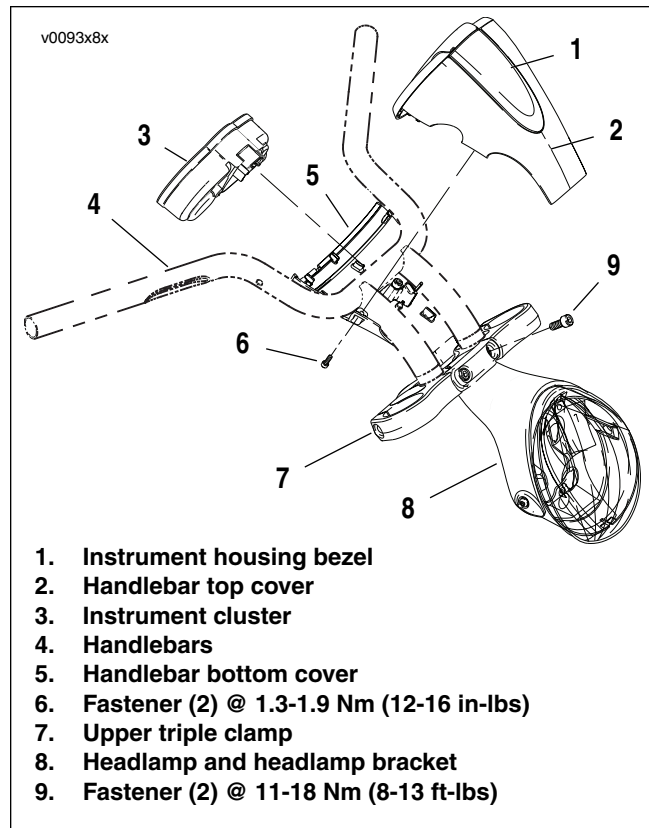

Figure 8-54. Instrument Cluster Removal
2. See Figure 8-54. To free lower end of top handlebar cover, loosen two mounting fasteners holding headlamp bracket to upper triple clamp.
3. Without removing cover, remove two fasteners (6) securing handlebar top cover (2) and instrument housing bezel (1) to handlebar bottom cover (5).
3. See Figure 8-54. Orient instrument housing bezel and handlebar top cover, and fit bezel hook over tab on handlebar bottom cover. Gently press handlebar top cover and instrument housing bezel down until bezel hook snaps onto tab.